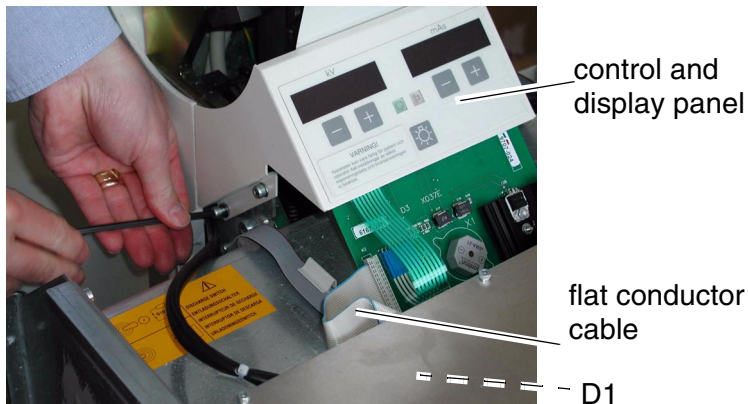

Fig. 29 Removing control and display panel
40. Disconnect the flat conductor cable from board D1 (Fig. 29), pin plug K2. If MOBILETT Plus HP, disconnect K2 also from board D301.
41. Remove the control and display panel by removing 4 screws, see Fig. 29.